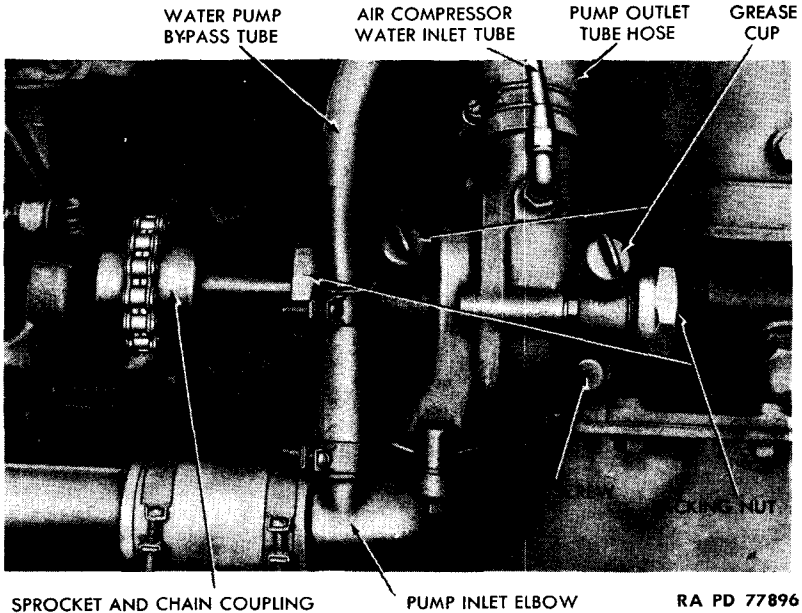

Figure 40 – Water Pump Installed
(1) **DESCRIPTION** (fig. 40). The water pump is the centrifugal type, driven by a horizontal pump shaft which is chain-coupled to the distributor drive shaft. It is mounted on engine at center of left side, and is coupled to the pump inlet elbow, water pump bypass tube, air compressor water inlet tube, and pump outlet tube. The pump assembly includes packing nuts for adjustment.
(2) TABULATED DATA.
b. Adjustment (fig. 40.) One packing nut is attached to each end of pump to provide for leakage adjustment. Turn nut at either end
(1) **DISENGAGE PUMP OUTLET TUBE** (fig. 40). Loosen hose clamp which secures hose to pump, and work hose from pump.
(2) **DISCONNECT PUMP INLET ELBOW** (fig. 40). Remove the two cap screws and lock washers which secure elbow to pump, remove elbow gasket, and pull elbow free from pump.
(3) **DISCONNECT AIR COMPRESSOR WATER INLET TUBE** (fig. 40). Screw tube nut from fitting on pump.
(4) **REMOVE PUMP COUPLING CHAIN** (fig. 40). Drive connecting link lock on front of chain from connecting link, remove link cover, and pry link from chain. Remove chain.
(5) **REMOVE PUMP FROM ENGINE** (fig. 40). Remove the four cap screws and lock washers which secure pump to block. Remove pump, then remove gasket.
(1) **INSTALL PUMP ON ENGINE** (fig. 40). Install new gasket, and use dowel guide to position pump on engine. Install the four cap screws and lock washers which secure pump to cylinder block.
(2) **INSTALL PUMP COUPLING CHAIN** (fig. 40). Position chain to pump coupling sprocket. Insert connecting link, secure with lock, and install cover on link.
(3) **CONNECT PUMP INLET ELBOW** (fig. 40). Using new gasket, position elbow to pump, and secure with the two cap screws and lock washers.
(4) **CONNECT PUMP OUTLET TUBE** (fig. 40). Fit hose over tube, and tighten hose clamp.
(5) **CONNECT AIR COMPRESSOR WATER INLET TUBE** (fig. 40). Screw tube nut to fitting on pump and tighten nut.